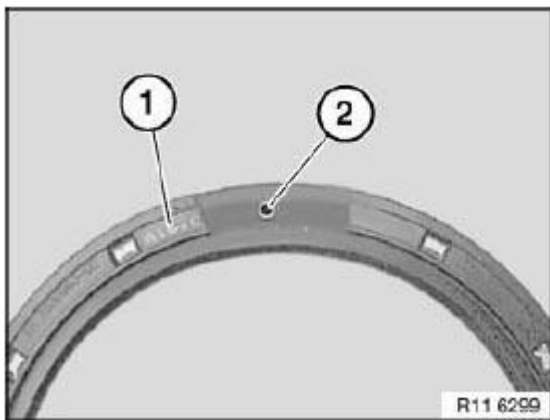

Fig. 91: Identifying Rubber Coating And Removal Opening
NOTE: If necessary, remove rubber coating (1) on top side of radial seal and expose a removal opening (2) (see **Fig. 91**).